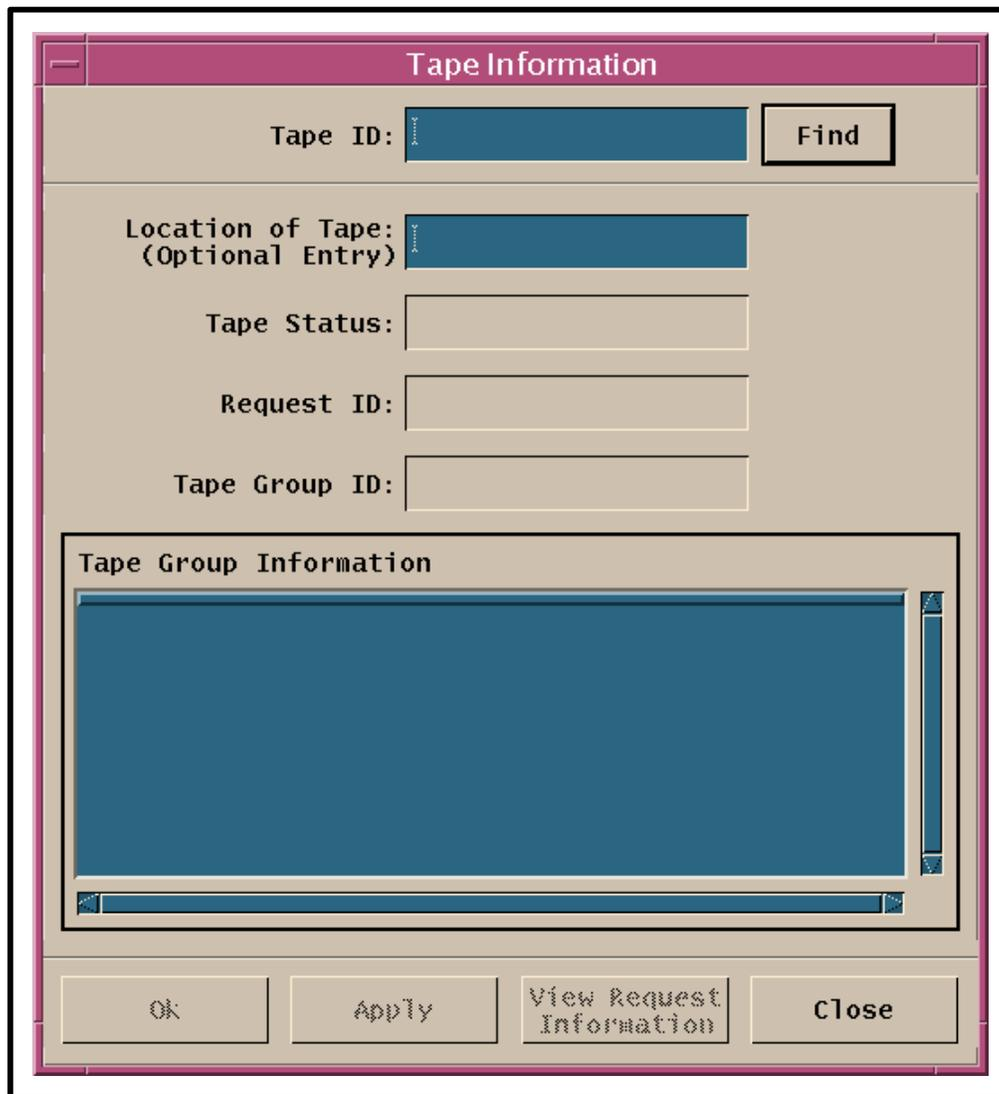

Figure 19. Tape Information Window (Storage Management Control GUI)
- The **Tape Information** window (Figure 19) is displayed.